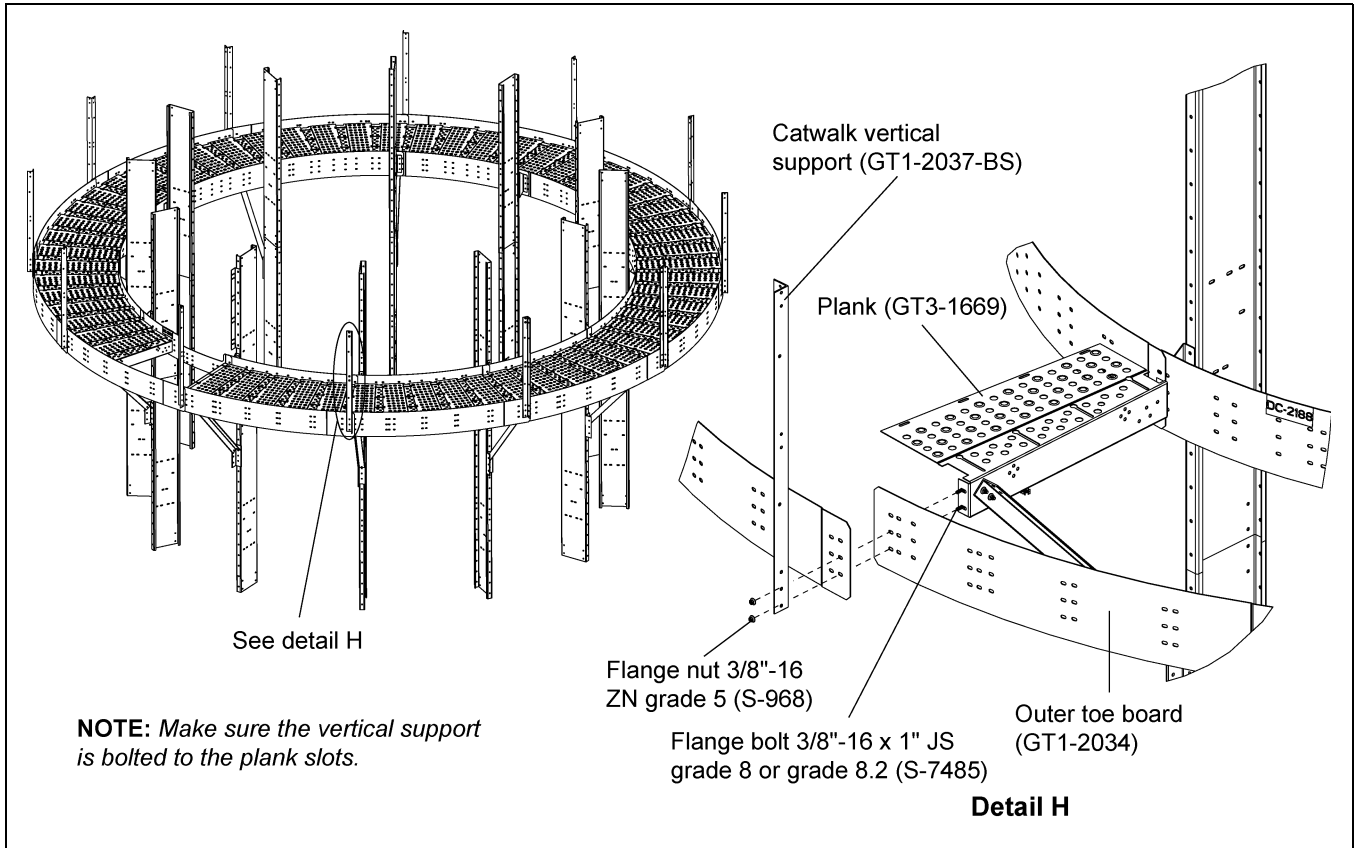
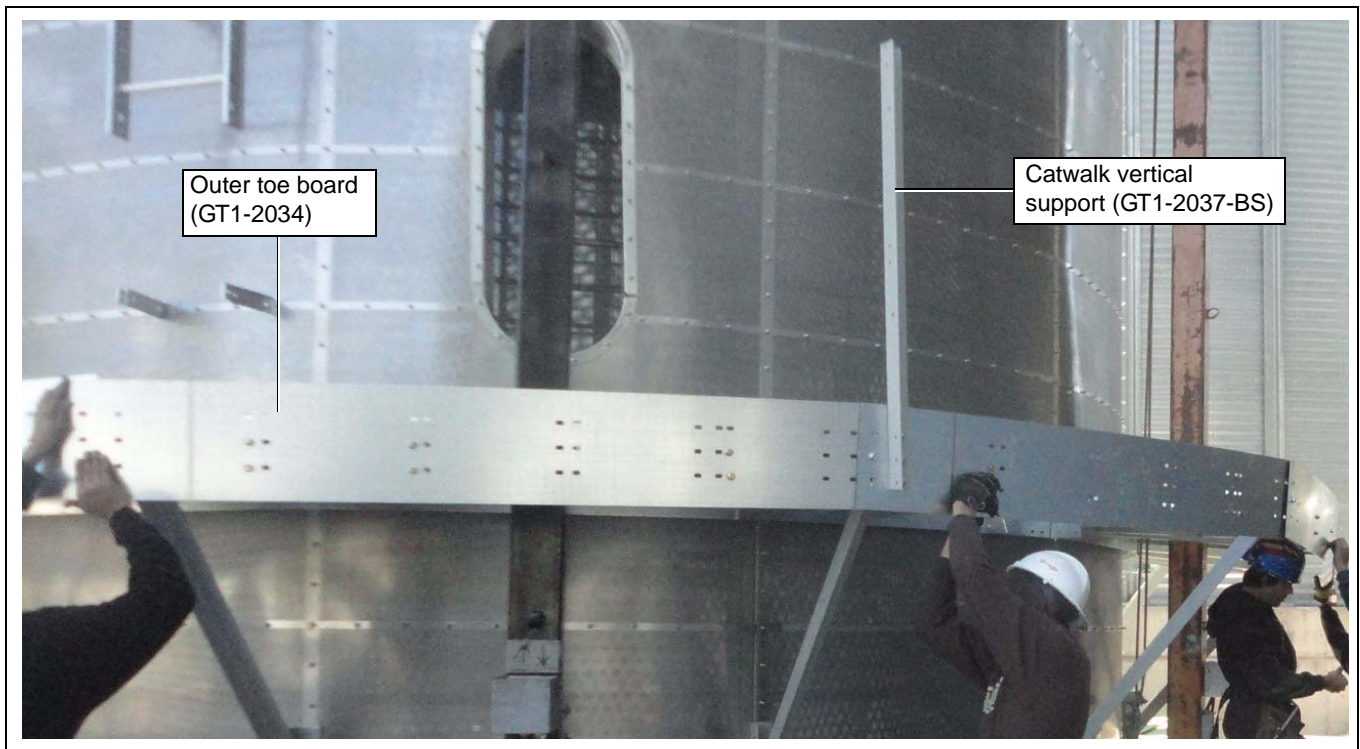

Figure 4R
Figure 4T
1. Install all the outer toe boards (GT1-2034) to the planks (GT3-1669). (See Figure 4R.)
2. When installing the outer toe board with planks, install the catwalk vertical support (GT1-2037-BS) simultaneously at proper locations using 3/8"-16 x 1" JS grade 8 or grade 8.2 bolts (S-7485) and 3/8"-16 ZN grade 5 nuts (S-968). (See Figure 4R and Figure 4T on Page 25.)